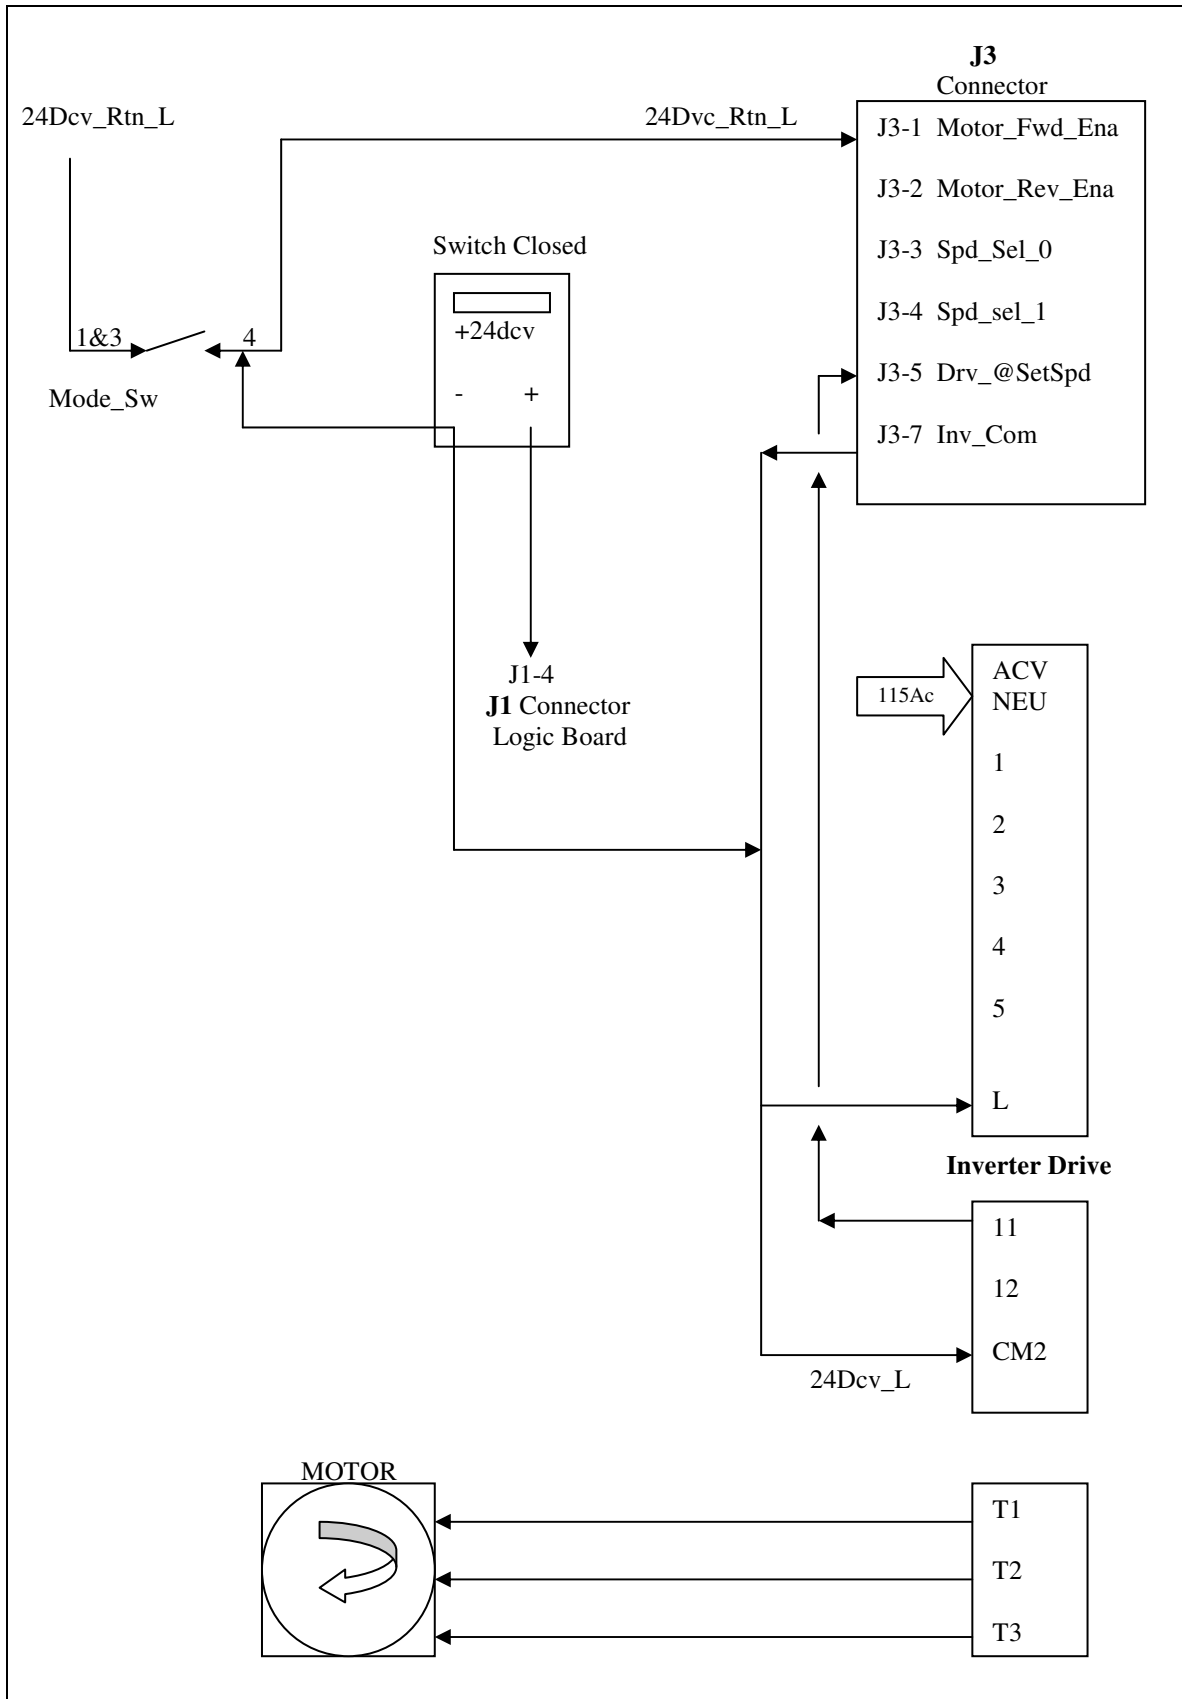

FIGURE 3
5. To bypass the mode switch and wire harness use your voltmeter set to the 10amp red fuse side with the black in COM then set your meter to DC amps, now your meter is a fused jumper wire. Now jump between the logic board **J1** connector (J1-1) to the motor speed inverter GY-19 low signal at terminal # 2 of the inverter. This should activate the inverter power up. See the cool down operation troubleshooting flow chart (FIGURE 3).
4. To program the inverter drive back to the factory settings (See the attached programming flow chart (Figure 3).